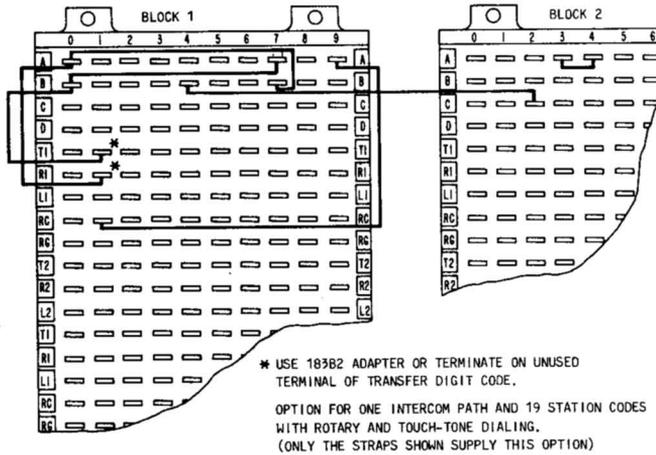

Fig. 11—N Option
4.08 The N option (Fig. 11) provides for one intercom path with 19 station codes. Stations can utilize both rotary and TOUCH-TONE dialing. Digit 1 is used as the transfer digit and is not available for a station code. Station codes 10 through 19 are connected to row C, terminals 0 through 9 on block 1 of the 626A panel (Fig. 4). Option G must be used with the N option to provide audible signaling.